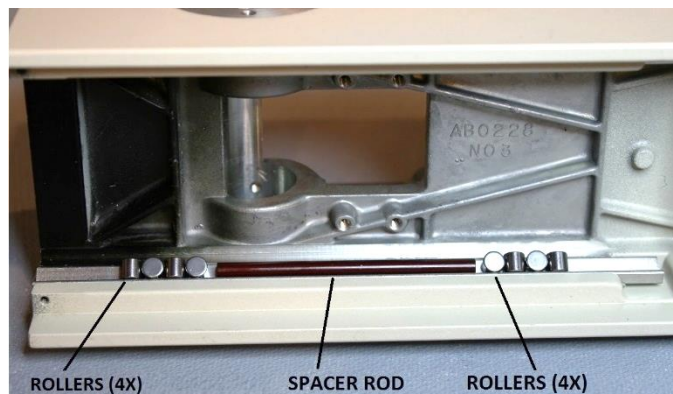

Figure 39 – Place rollers and rod onto bottom guide rails
Lightly coat eight of the cylindrical rollers and one of the plastic spacer rods with suitable grease (item 5 or 7 of Appendix 2). Place these eight greased cylindrical rollers and the greased plastic spacer rod onto the greased guide rails in the bottom channel of the arm of the stand (see Figure 39, shown without grease for clarity). Note the alternating orientation of the rollers.
Place eight of the cylindrical rollers and the one of the plastic spacer rods onto the guide rails in the bottom channel of the arm of the stand (see Figure 39). Note the alternating orientation of the rollers.